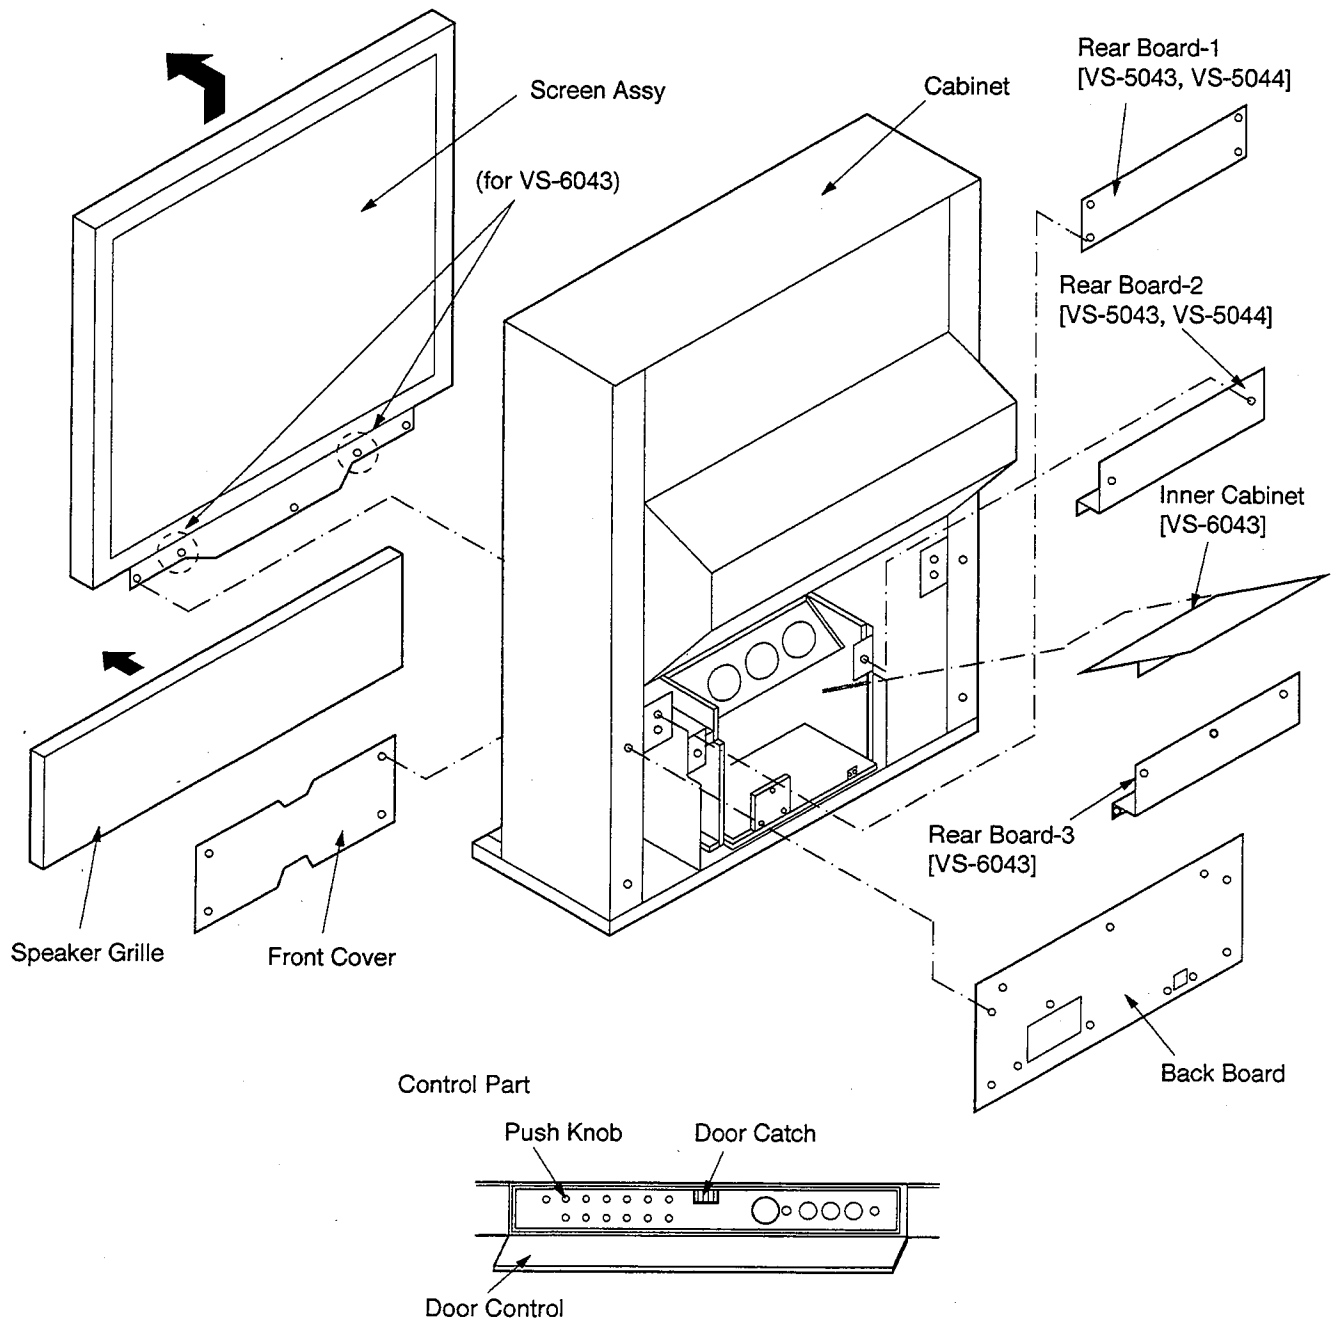

Fig. 2-2
1. Remove the Screen Assy. [Fig. 2-2]